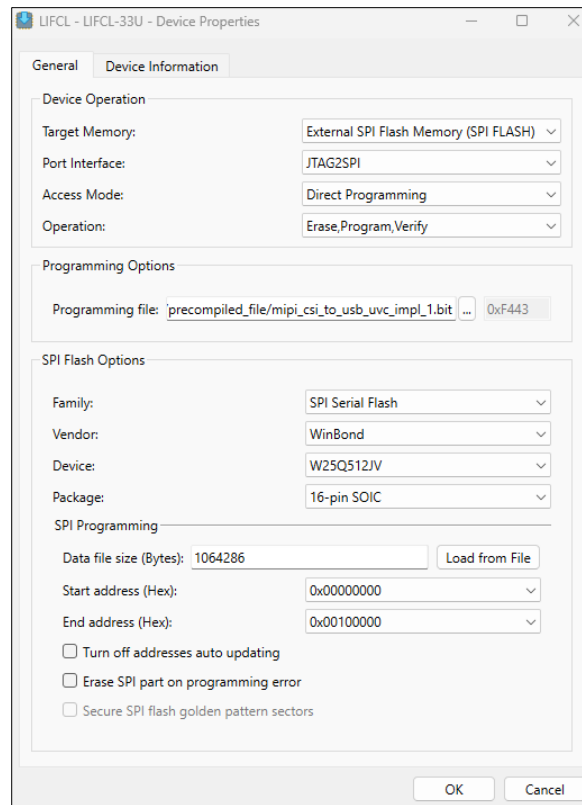

Figure 6.3. Device Properties Window for CrossLinkU-NX SPI Flash Programming
- c. Select the other settings shown in Figure 6.3 and click **OK**.